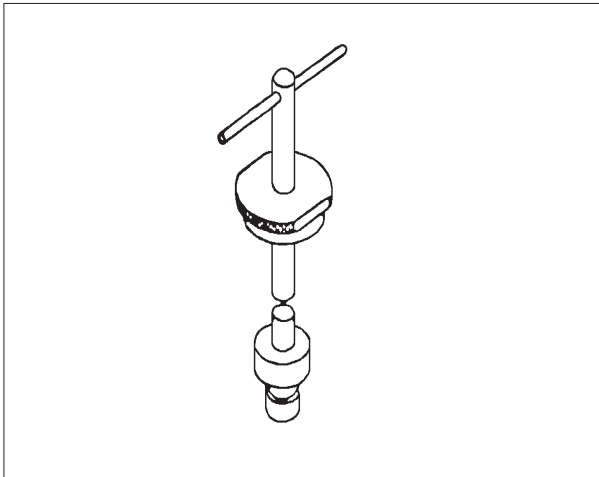

Fig 3 Grinding tools for seat and liner for fuel injection valve.
17. Before mounting the fuel valve, clean and inspect the valve sleeve in the cylinder head. If necessary, grind the seating face with the grinding tool (see fig 3).